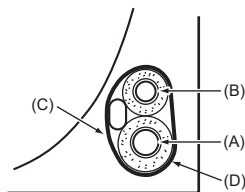

Fig. 4-5
- (A) Site-side refrigerant piping
- (B) Unit side refrigerant piping
4.5.1. Storing in the piping space of the unit (Fig. 4-5)